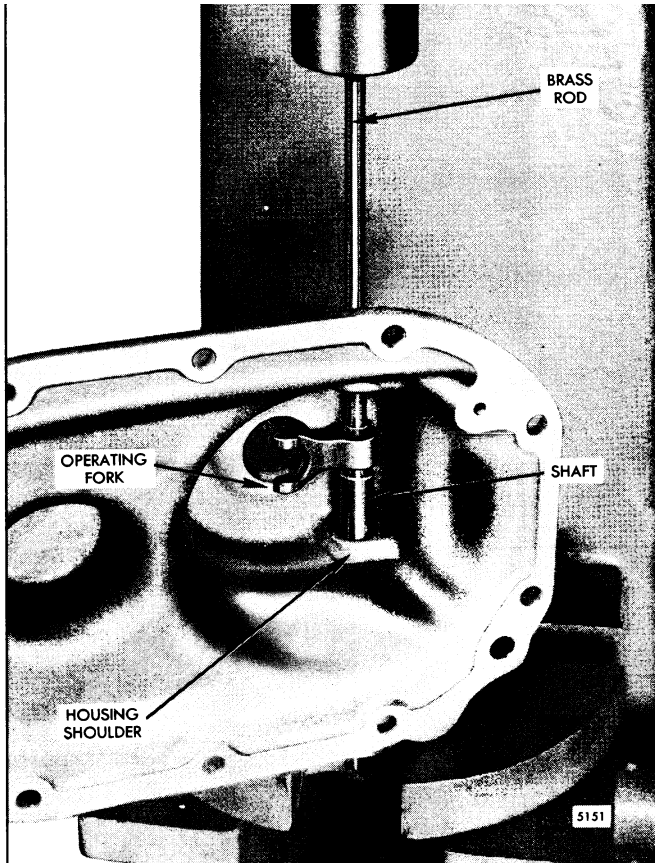

Fig. 13 - Removing Shaft From Lower Bearing and Operating Fork
- d. Turn the weight housing over and press down on the operating shaft (34) to remove the shaft from the lower bearing (36). Continue pressing down on the shaft, with the operating fork (35) against the flat shoulder of the housing, to remove the operating fork (35) from the shaft (Fig. 13).